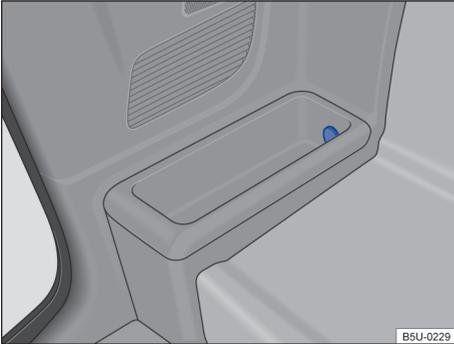

Fig. 105 In the side panel of the internal luggage compartment: 12 V socket.
- In the stowage compartment on the right hand side of the internal luggage compartment → Fig. 105 (may not be available depending on the vehicle version).